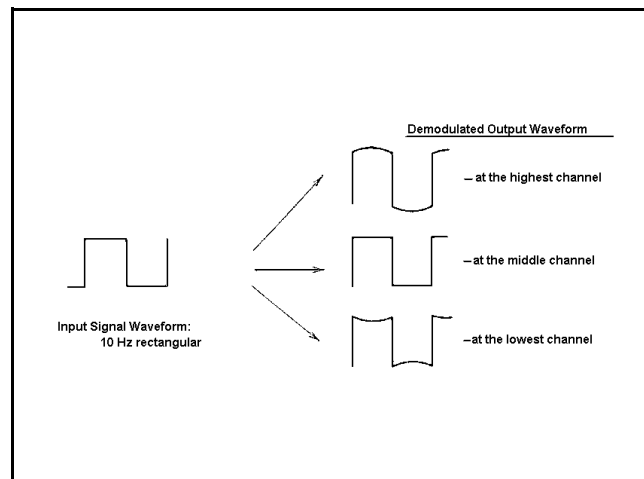

Figure 8 - Typical Rectangular Waveform of Demodulated Output
3. Change the signal to a 10 Hz rectangular waveform signal. Then, the demodulated output from the modulation analyzer should look like Figure 4. If the level adjustments under step 1 and 2 are out of balance, the rectangular waveform will be distorted (refer to Figure 8).
- a. Check the Local Oscillator Frequency. Check the frequency after connecting a frequency counter through a 1 PF capacitor to the collector of Q103. The frequency relation at various stages is shown In Figure 8. If a frequency error is 1.5 PPM or more in the temperature range of 20° to 25°C, adjust the frequency of VCTCXO (Z1). The frequency of VCTCXO is 13.2 MHz.